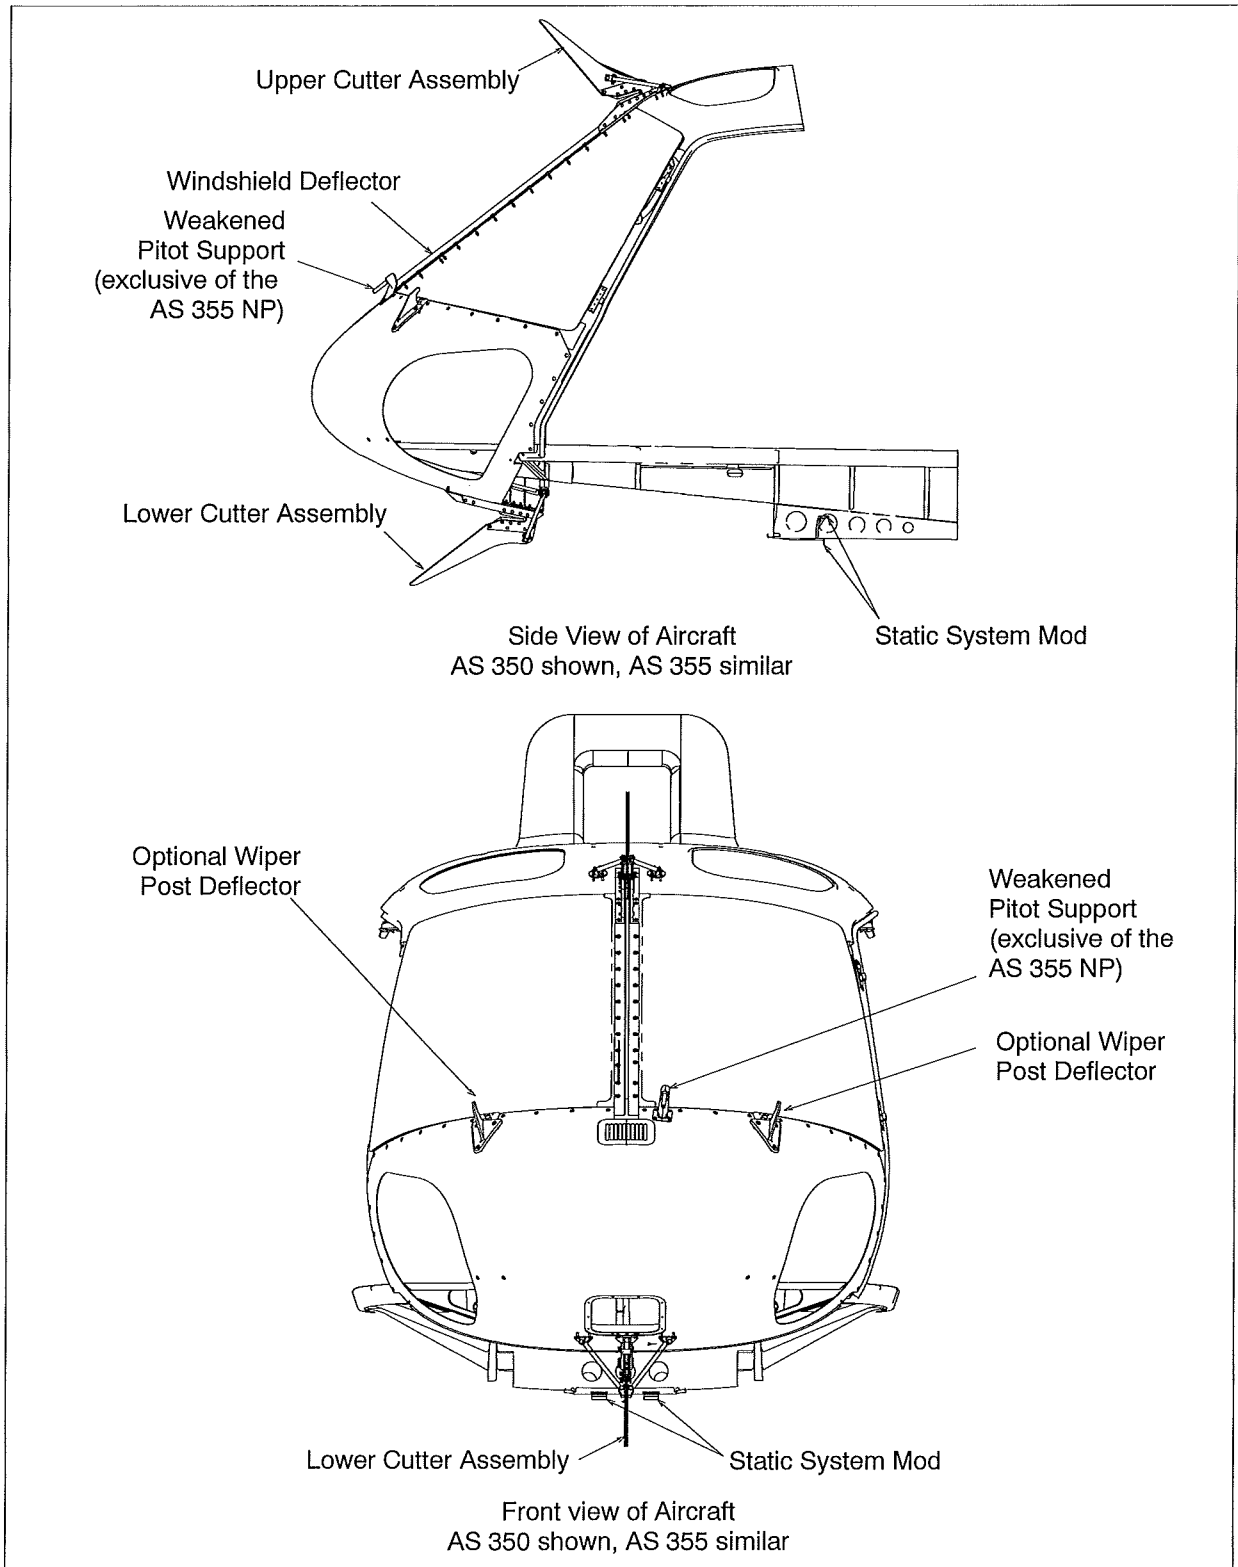

Figure 1 General Layout
- A. The subject Cable Cutter Installation consists of two cable-cutting devices mounted on the upper and lower canopy. A Deflector, integral to the cutting devices and installed on the windshield center post, guide cables to the cutting blades. Optional wiper post deflectors can be installed on aircraft with windshield wipers. Refer to Figure 1 for General Layout.